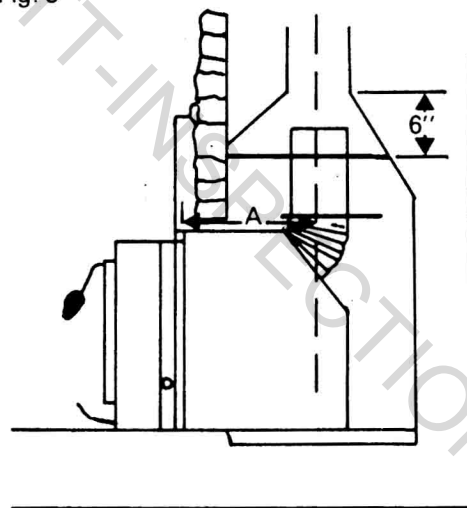

Fig. 4
5. Drill two 3/8" diameter holes 3" from the crimped end of the pipe, insert 5/16" rod into the holes and use as a handle. Push pipe up through ceiling plate (figure 4) to allow insert to be installed.
6. Remove any loose parts from inside of insert. Connect top faceplate to the insert. Push the elbow with crimped end down into the flue collar (figure 4). Place insert onto the hearth and move into the fireplace opening leaving approximately 4" space between the insert and facing of fireplace. Place fiberglass strips between insert faceplate and fireplace facing and push insert tight against fireplace facing. Make sure any air spaces are filled with insulation.